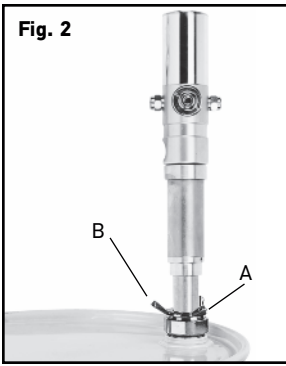

Fig. 2
- a. Attach the 2" bung adapter, P/N 22157 (item A, fig 2), to the 2" opening at the top of the drum.
- c. Tighten the wing nut, item B, fig. 2, on bung adapter to secure the pump at the desired height.